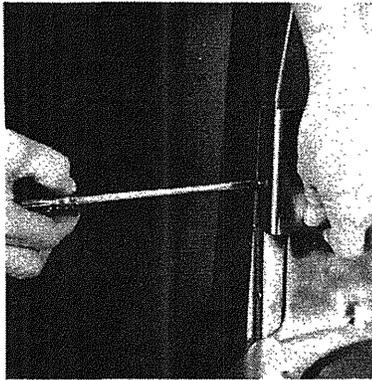

Fig. 6-1
- A. Remove stainless steel apron by removing two screws (Fig. 6-1). Newer units have thumb screws instead of slotted head screws.